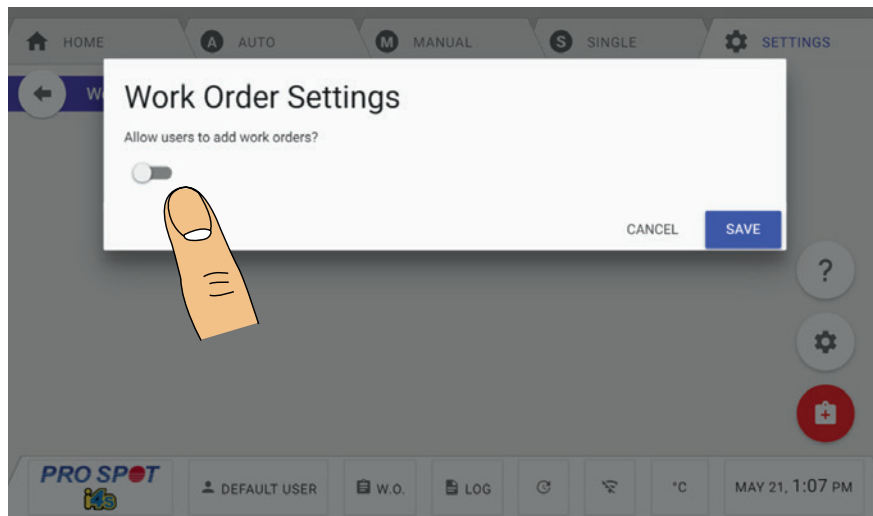

Figure 4.30
3. This will bring up the Work Order Settings (Figure 4.30).